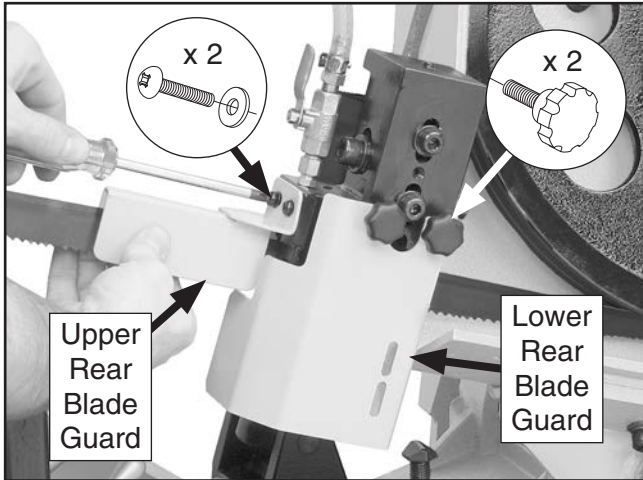

Figure 33. Location of rear blade guards and fasteners.
7. Loosen (2) knobs shown in **Figure 33** to remove lower rear blade guard.
8. Remove (2) Phillips head screws and flat washers shown in **Figure 33** to remove upper rear blade guard.